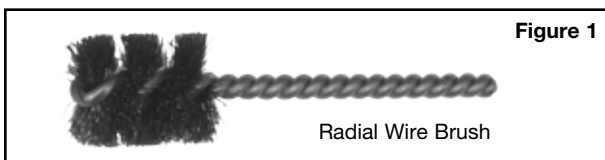

Figure 1
- Carefully inspect snap ring grooves, feed holes or bore edges and de-burr if necessary to reduce cutting. A non-abrasive tool such as a radial wire brush (**Figure 1**) works best, but the bore should always be thoroughly cleaned after any de-burring.